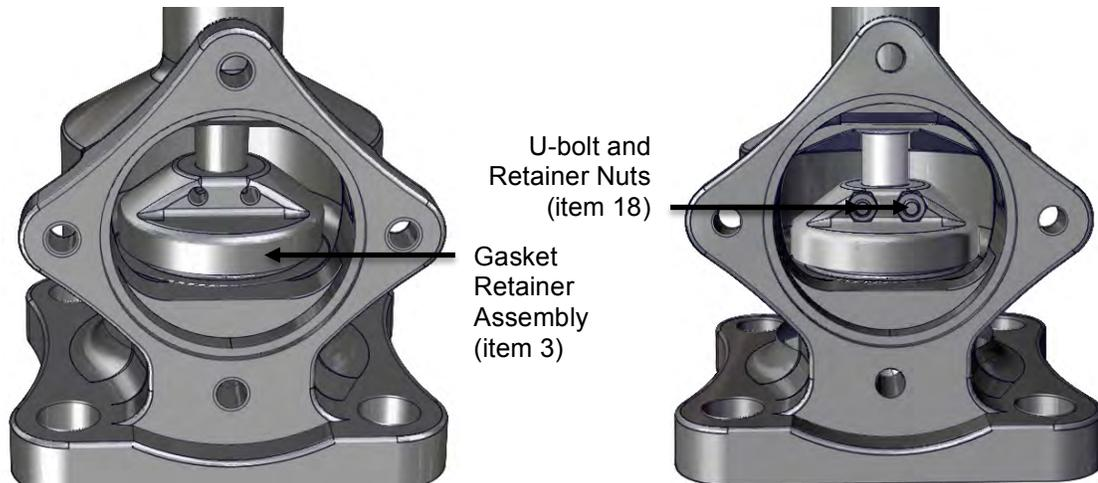

Figure 7-3 Reassembly Steps 7.2.11 through 7.2.14
- 7.2.11 Position the gasket retainer assembly into the valve body through the side port so that the seat seal (item 10) is resting on the body seat; see Figure 7-3.
- 7.2.12 Turn the valve handwheel clockwise to lower the stem into the recess in the gasket retainer (item 3). Orient the retainer so the two holes for the retainer are accessible through the side port; see Figure 7-3.
- 7.2.13 Insert the stem retainer U-bolt through the holes in the retainer and the groove of the stem to couple these parts. Lightly tap in the U-bolt so the threaded ends go as far through the gasket retainer holes as the base of the U-bolt will permit; see Figure 7-3.
- 7.2.14 Open the valve about ¼-turn and rotate the gasket retainer 180°, and reclose the valve. Install the two retainer nuts (item 18) and tighten them down securely with a socket wrench. It may be necessary to keep the U-bolt forward with one finger on one leg while installing a nut on the other leg; see Figure 7-3.